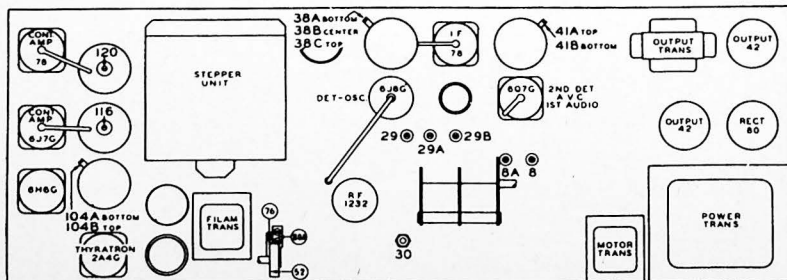

FIG. 5. LOCATIONS OF ALIGNING COMPENSATORS, MODELS 40-215, 40-217.
2. Now bring the wireless remote control unit close to the receiver. Using a padding wrench, Philco Part No. 3164, tune the compensator (128) Fig. 5, located on the bottom of the remote control unit until a maximum voltage reading is indicated on the vacuum tube voltmeter. When tuning this compensator, it should be done very slowly so as not to pass over the frequency to which the control amplifier is tuned.
3. After adjusting the compensator with the sensitivity control on the receiver in the "extreme" position, the remote control unit is adjusted for maximum sensitivity by setting the sensitivity control in the "near" position and placing the remote control unit a few feet away from the receiver. The compensator (128) Fig. 5, is then adjusted again for maximum voltage reading of the vacuum tube voltmeter.